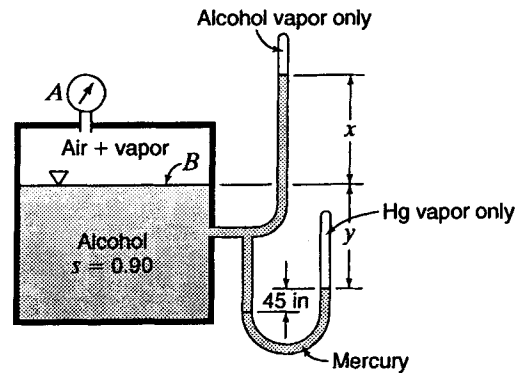

Figure X3.5.8
3.5.8 In Fig. X3.5.8, atmospheric pressure is 14.80 psia; the gage reading at A is 3.7 psi; the vapor pressure of the alcohol is 1.4 psia. Compute x and y .